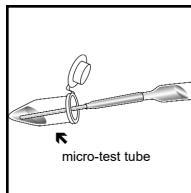

Figure 2
2. Fill the micro-test tube approximately halfway with the sample to be tested (fig. 2).
4. Holding the VACUette almost horizontally, touch the tip to the contents of the micro-test tube (fig. 2).